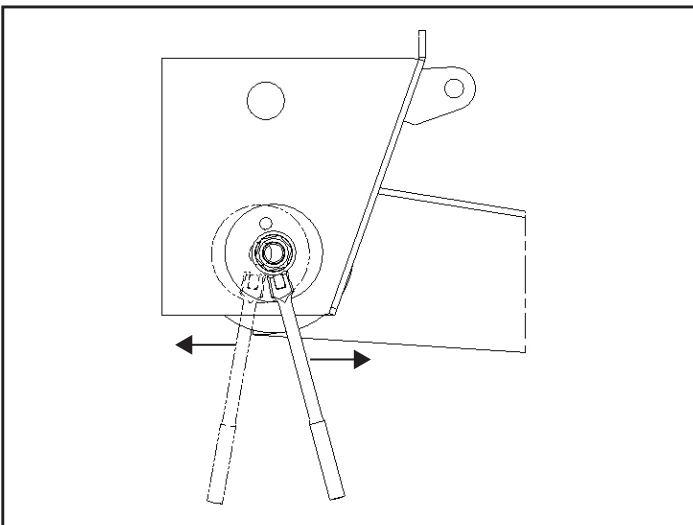

Figure 15.
2. Locate the adjuster plate at the pivot connection. Insert a 1/2”-shank breaker bar into the square hole of the adjuster plate. Move the arm beam forward or backward until the axle reaches alignment (Figure 15). NOTE: Check to make sure that the pivot bushing is not wedged sideways during